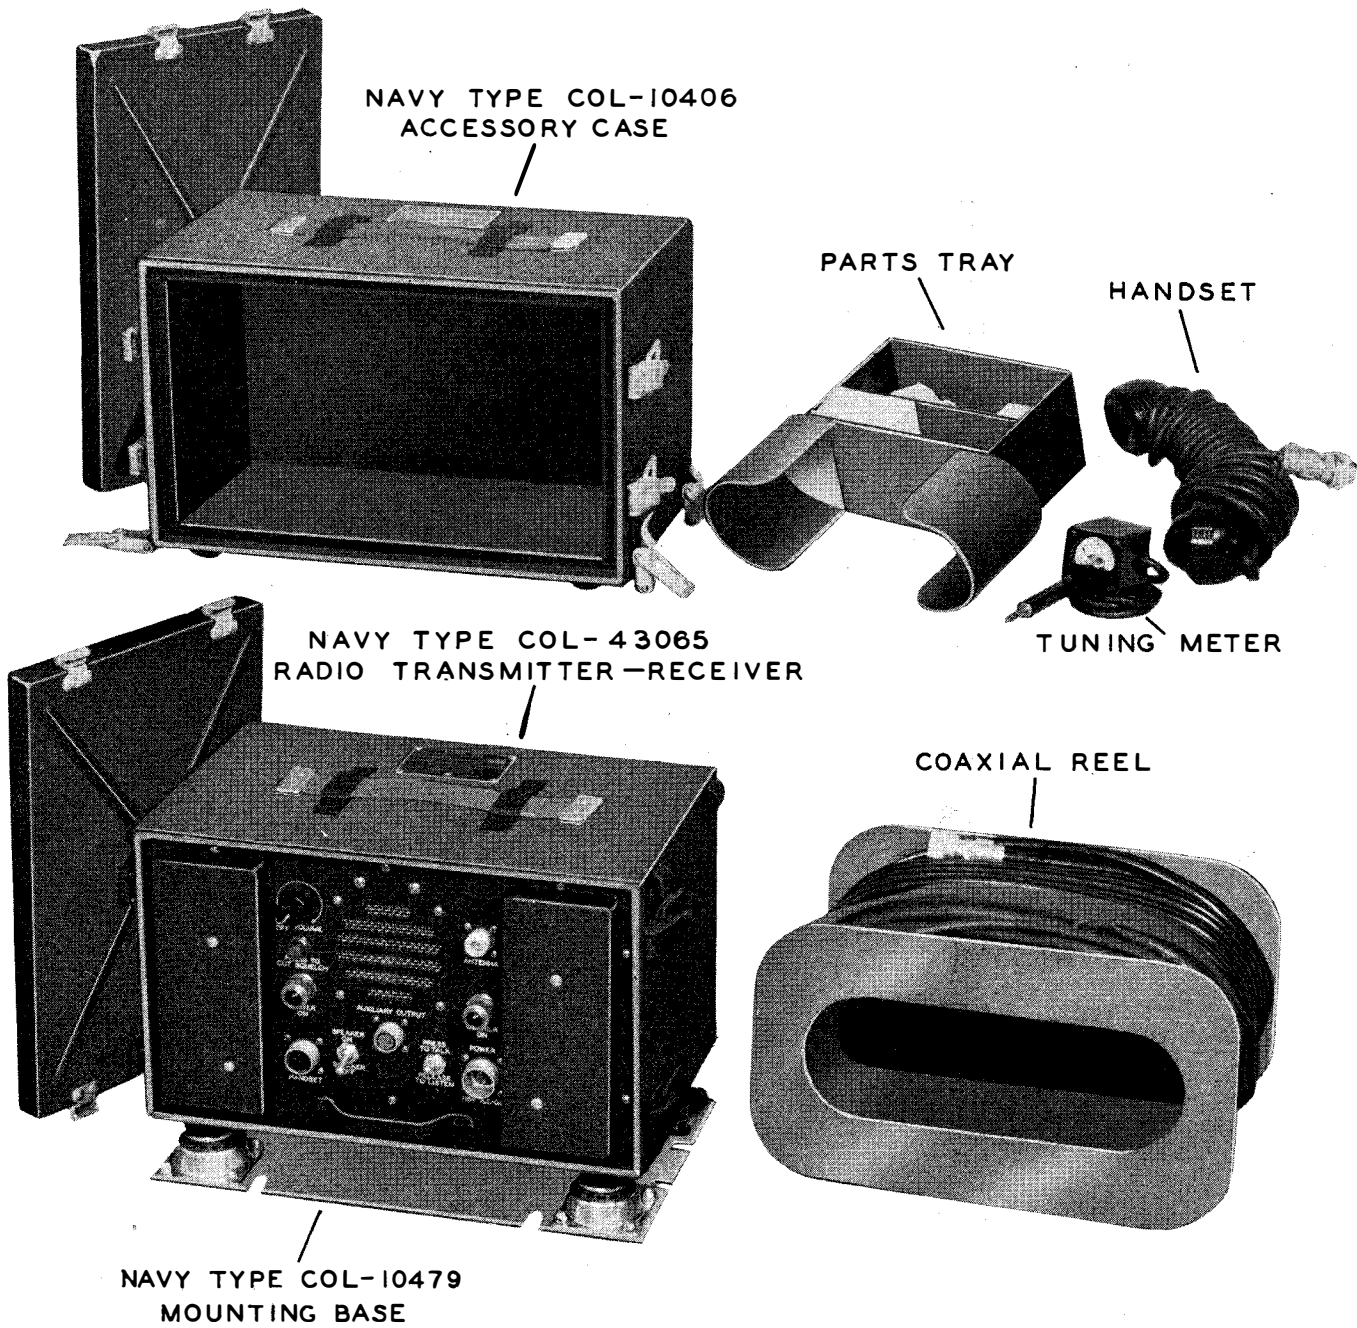

Figure 1-1—Navy Model MBF Equipment
b. EQUIPMENT FUNCTIONS AND CHARACTERISTICS. (See figure 1-1.)